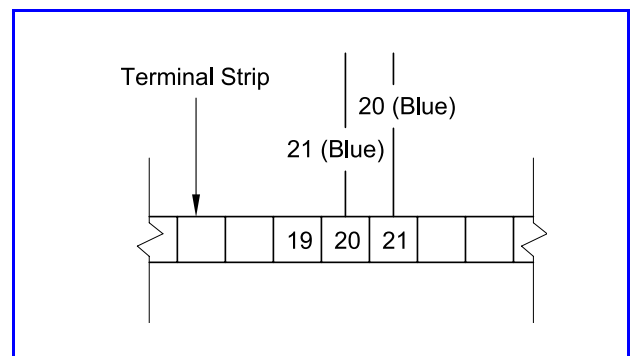

Figure 18 *Wiring Connection for Voltage Mode of Operation*
4. Connect wire No. 21 to Terminal No. 20 and wire No. 20 to Terminal No. 21. See **Figure 18**.